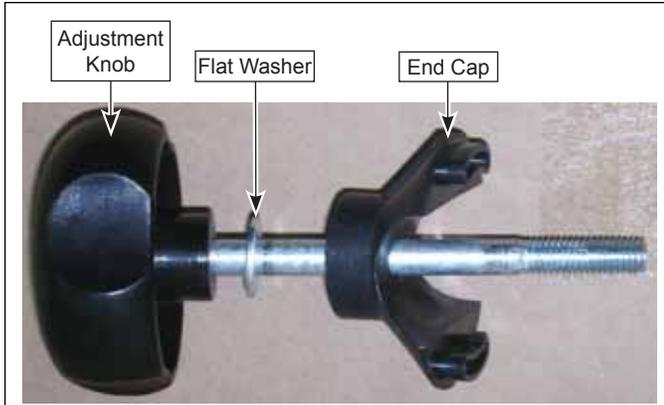

Figure 3
5. Place flat washer and end cap on adjustment knob shaft. See Figure 3.